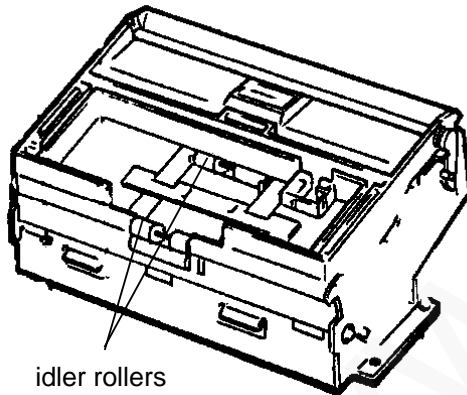

Figure 3. Scanner Idler Rollers
- feed and exit roller idlers (Figure 3).